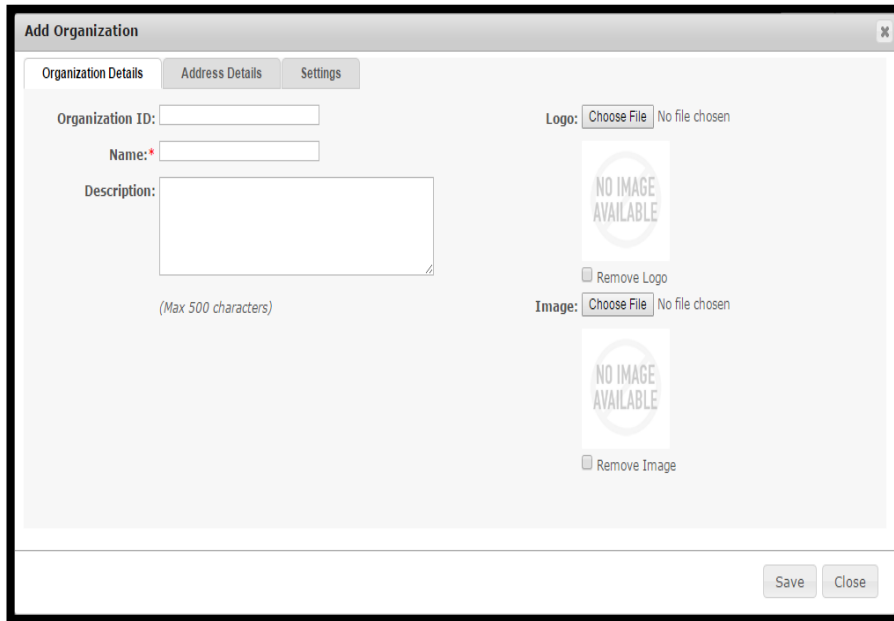

FIGURE 6.14.3
Step 2: After Clicking on the link, a window will appear, snapshot of the window is shown below in **(Figure 6.14.3)**.